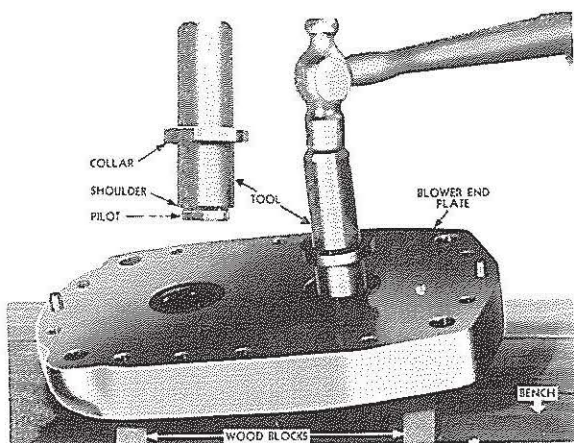

FIG. 7
- b. Back out puller studs (A) in puller plate (B) as far as possible.
- c. Install the 3 anchor bolts (C) in the three equally spaced holes of each puller plate and screw anchor bolts in holes from which bearing retainer screws were removed so faces of plates are parallel with face of blower.
- d. Turn the two puller studs (A) uniformly clockwise and push rotor shafts from bearings in **REAR** plate. **FRONT** plate, with rotor shafts still assembled in bearings, will be pushed away from blower housing, simultaneously.
- e. Remove tool from rear end plate and the two fillister head retaining screws, then pull plate from position by hand. Withdraw rotors and front end plate assembly from blower housing, **IF ROTORS ARE NOT SCORED**. If rotors are scored, remove front end plate from rotor bearings before withdrawing rotors; as outlined in item (8).
- a. Attach puller plates (B) to blower front end plate with anchor bolts (C) screwed into holes from which bearing retainer bolts were removed—the same as in 7-C.
- b. Turn the two puller studs (A) uniformly clockwise and push rotor shafts from bearings.
9. Remove rotor shaft bearings from blower end plates. Insert bearing removing tool through oil seal from inner face of blower end plate, as shown in Fig. 7 so pilot of tool enters bore in inner race of bearing and shoulder of tool rests against face of bearing inner race. Support end plate approximately two inches off bench and drive bearing from position. Follow this same method on all
10. Remove bearing oil seals from blower end plates. Inspection of oil seals for leaks while the blower was running on the engine largely determined if they should be changed. A further inspection may be conducted after blower has been disassembled. If the leather is scored so that a tight seal on shafts is impossible or the leathers have become charred and hard, the seals should be changed. If change is necessary, the seals may be removed from the end plates at the same time the individual bearings are removed. This is done by continuing to drive down on the tool, shown in Fig. 7 until collar on tool rests on and forces seal down and out of plate.